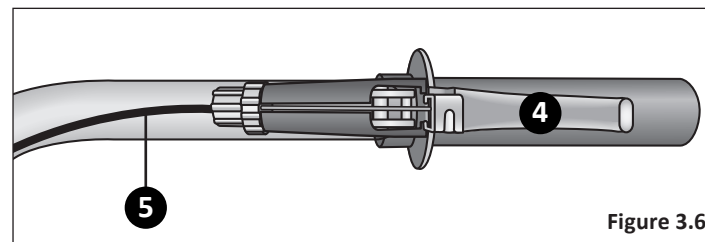

Figure 3.6
- 4 Release the brake lever. **Figure 3.6**